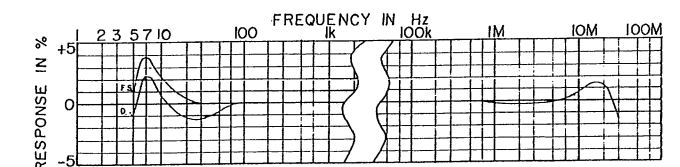

Fig. 17. Typical Frequency Response, 1 mV Range
- In succession set the generator frequency to 10 kHz, 100 kHz, 1 MHz, 5 MHz, 10 MHz, 15 MHz and 20 MHz, adjusting the generator amplitude at each frequency for the same indication on the level monitor as was noted at 1 kHz. At each frequency also note the instrument indication. It is helpful to either tabulate or plot this response in % vs frequency. The 1 mV HF adjustment (see Fig. 13) should be adjusted (if necessary) for the flattest response to 10 MHz. A rise of approximately 0.5% at 10 MHz is typical and a further rise beyond this point is also typical and desirable. A typical response for the 1 mV range is shown in Fig. 17.
- B. In succession set the generator frequency to 100 Hz, 50 Hz, 30 Hz, 20 Hz, and 10 Hz, adjusting the amplitude at each frequency for the same indication on the level monitor noted at 1 kHz. At each frequency also note the instrument indication. A typical low frequency response is shown in Fig. 17. It will be noted that the response at full scale and down scale are different below 50 Hz; this is inherent and normal.